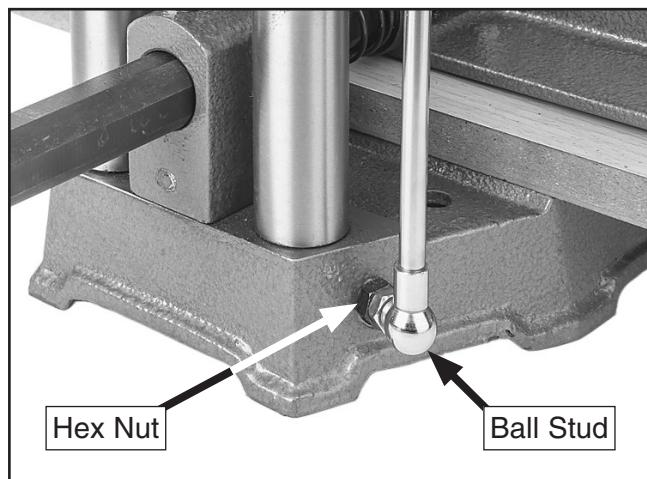

Figure 32. Ball stud and hex nut secured to base.
2. Loosen hex nut (see **Figure 32**).